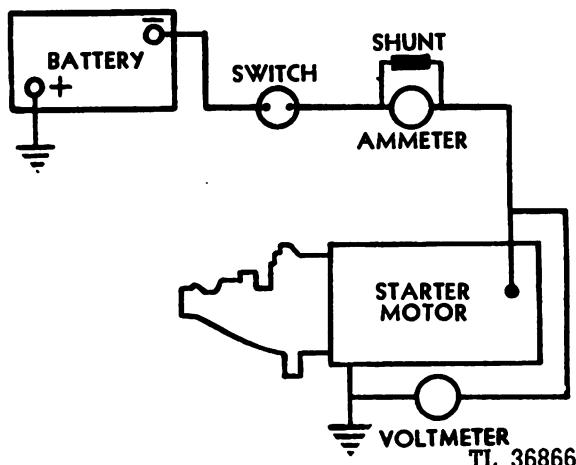

Fig. 214. Diagram—No-Load Test
b. No-Load Test. Connect the cranking motor in series with a battery of 24 volts and an ammeter capable of reading several hundred amperes. The armature r.p.m. can be checked with an r.p.m. counter. Figure 214 shows the hookup for the no-load test. The cranking motor should be fastened securely in a vise. At 3600 r.p.m. the ammeter should indicate 280 amperes and the voltmeter 21.8 volts.